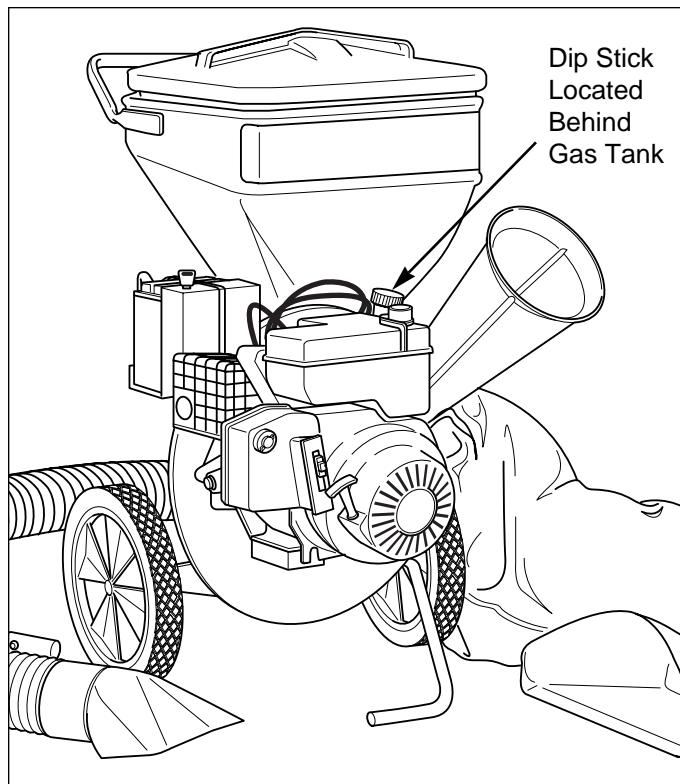

Figure 15. Oil Dip Stick Location
1. Oil level must be full. Check the oil level by removing and checking the engine dip-stick (Figure 15). The oil level should be up to the full mark on the dip-stick.